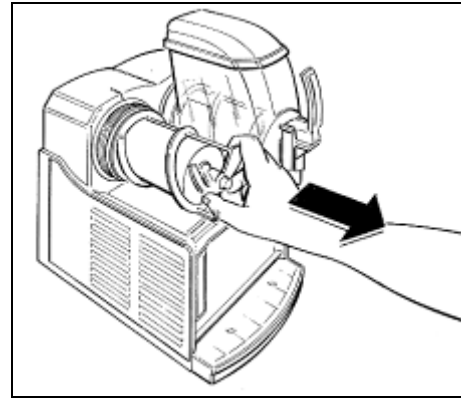

Fig. 7
- **P**ull out the mixing unit, the bell shaped seal and the bowl gasket on the back (fig.7 and 8).